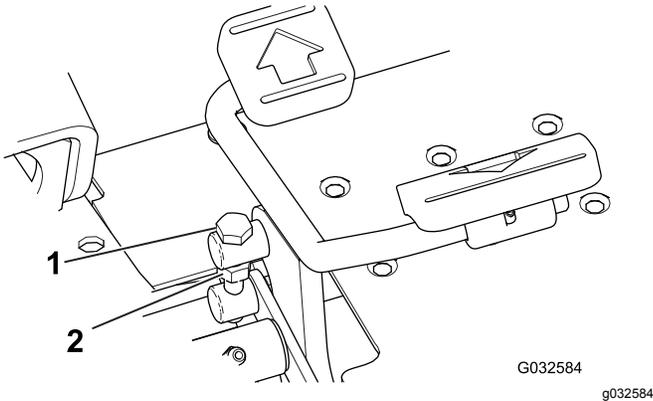

Figure 45
1. Loosen the jam nut on the trunnion bolt on the side of the traction pedal (Figure 45).